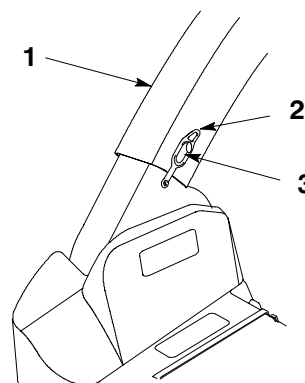

Figure 27
2. Insert the upper end of the discharge tube into the bagger top. Slide the lower end of the discharge tube over the blower opening (Fig. 27).
3. Hook the rubber latch over knob (Fig. 27).